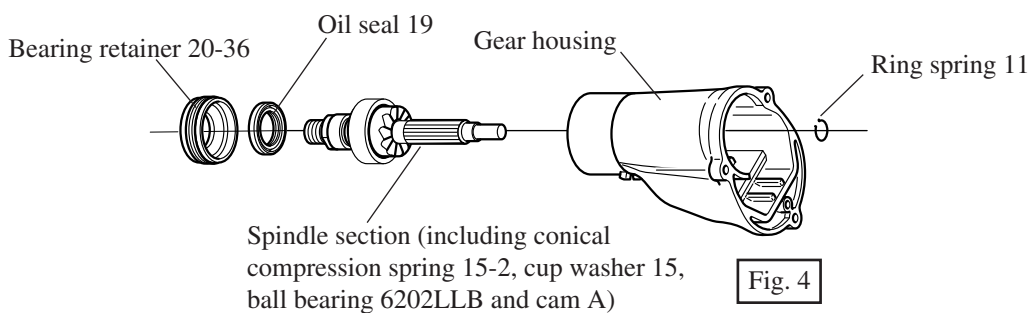

Fig. 4
1. Assemble the spindle section to gear housing as illustrated Fig. 4 below.